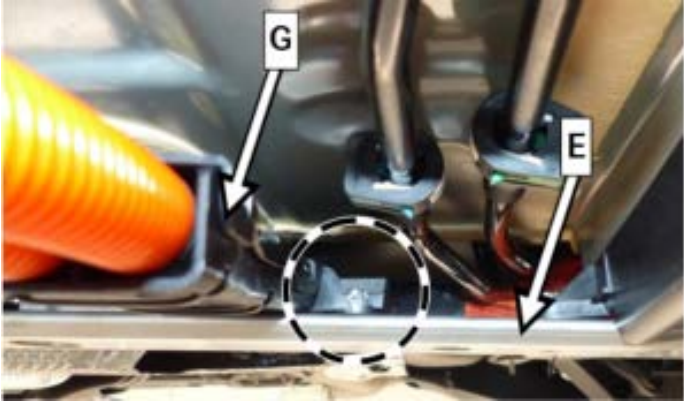

Figure 2 (example illustration on model 213 with OM654)
5. Remove cable duct (**G, Figure 2**) from cross strut (**E, Figure 2**).